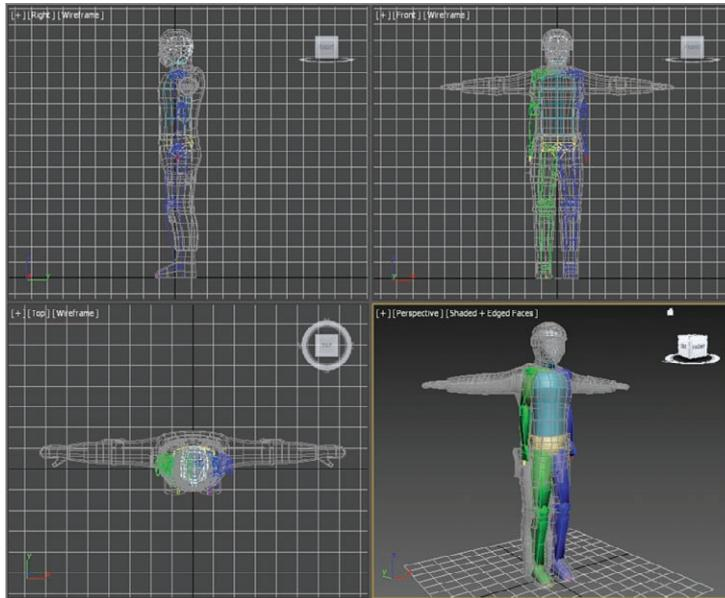

FIGURE 12.3 Create a biped about the same height as the soldier model.
4. Create a biped with a height about the same as the soldier's. This will make most of the biped's parts similar in size to those of the soldier, as shown in Figure 12.3.